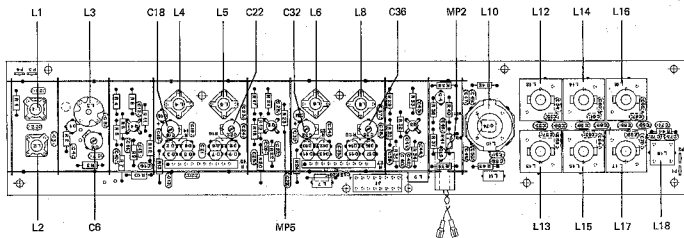
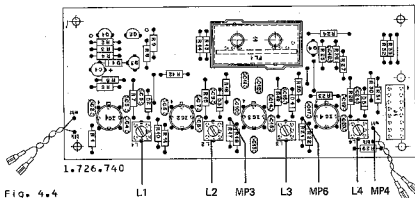

Fig. 4.3
Fig. 4.4
- Press station selector key 1 (87.5 MHz).
- Connect digital frequency counter to test point MP4 (white stranded wire, 1.726.740, Fig. 4.4).
- Connect RF voltmeter to test point MP3 (R17, IC3 Pin 1, 1.726.740, Fig. 4.4).
- Press station selector key 2 (90 MHz) and adjust L3 to L6 and L8 to maximum voltage on the RF voltmeter.
- Press station selector key 4 (106 MHz) and adjust C6/C18/C22/C32/C36 for maximum voltage on the RF voltmeter (Fig. 4.3).
- Connect digital frequency counter to test point MP4 (1.726.740, Fig. 4.4).
- Press station selector key 3 (98.0 MHz).
- Adjust L10/L12/L13 through L18 (1.726.730, Fig. 4.3) and L1/L2 (1.726.740, Fig. 4.4) for maximum reading on the RF voltmeter. Since there is mutual influence between the coils, these adjustments should be repeated several times.
- If these values are not attained, the settings of the trimmer slugs L10 and L12 through L17 (1.726.730, Fig. 4.3) should be changed until the specified tolerances are met. If a correction is necessary, it should be made with all trimmer slugs.
- Press station selector key 14
- Connect RF voltmeter to test point MP6 (R21, IC4, pin 1, 1.726.740, Fig. 4.4) and adjust L3 for maximum voltage.
- Connect RF voltmeter to test point MP4 and adjust L4 for maximum voltage (Fig. 4.4).